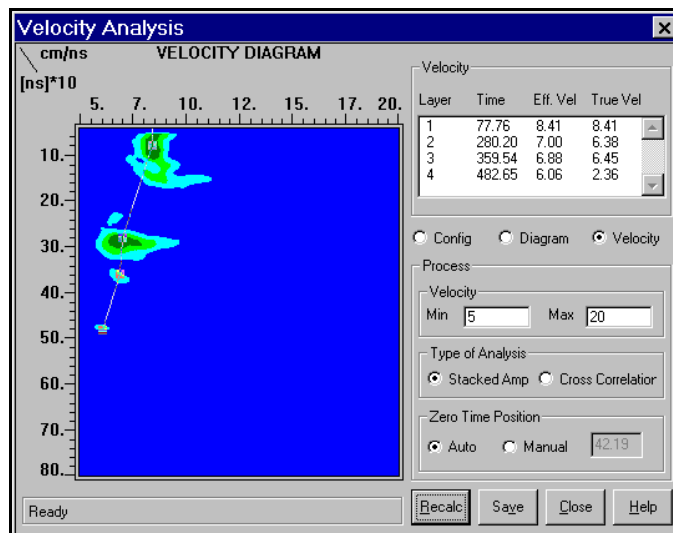

Figure 65: Velocity Analysis window showing Velocity menu.
**Isolines Function:** The Isolines function enables the user to see contours of areas having the same velocity. This function is active when the Isolines box is selected with the mouse. When selected, a check mark will show next to the word isolines and the display will show velocity contours, as in Figure 65.
Velocity log information will be displayed in the Velocity window to the right, as shown on Figure 65. A line will also be plotted from layer to layer, showing the best correlation of velocity.